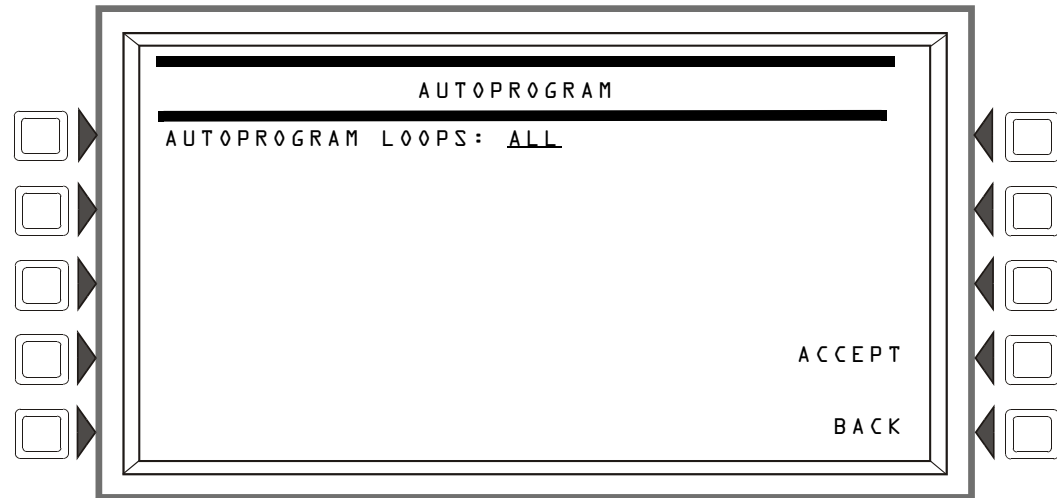

Figure 3.63 Autoprogram Menu Screen
3. Press the **AUTOPROGRAM LOOPS** soft key and enter the desired SLCs (loops **1+2** in this example) in the Autoprogram Menu screen (Figure 3.63)